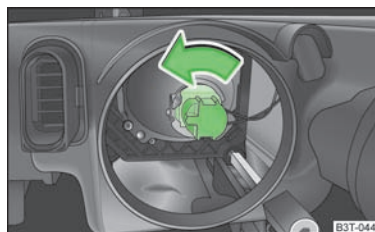

Fig. 190 Removing the bulb for the low beam
- Turn the connector with the bulb in an **anti-clockwise direction** up to the stop and remove » Fig. 190.